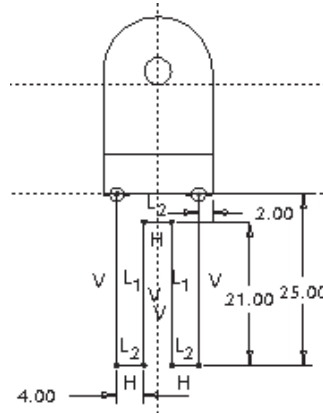

Figure 5-65 Sketch with dimensions and constraints of the third feature
5. Sketch the section for the third feature of the model and add constraints and dimensions to the sketch, as shown in Figure 5-65.